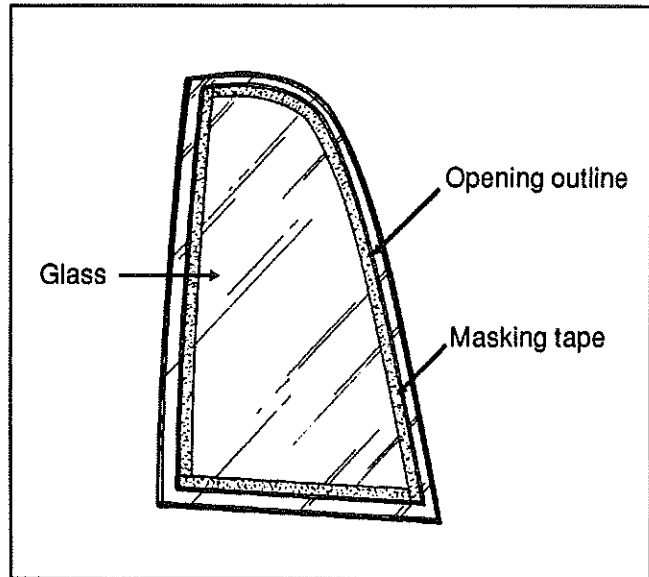

Fig. 30
4. Tape the glass inside and all around the outline marked with the pencil. For ease of removal, do not overlap the tape at corners. See figure 30.